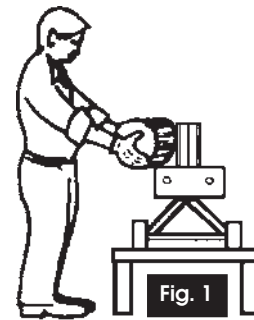

Fig. 1
- For the best and safest use, the logbuster **MUST** be used on a raised surface, of sufficient height, so that when the logbuster is mounted, the main bed of the machine is no higher, or lower, than the extended arms of the operator, without the operator having to bend forward (see Fig. 1).